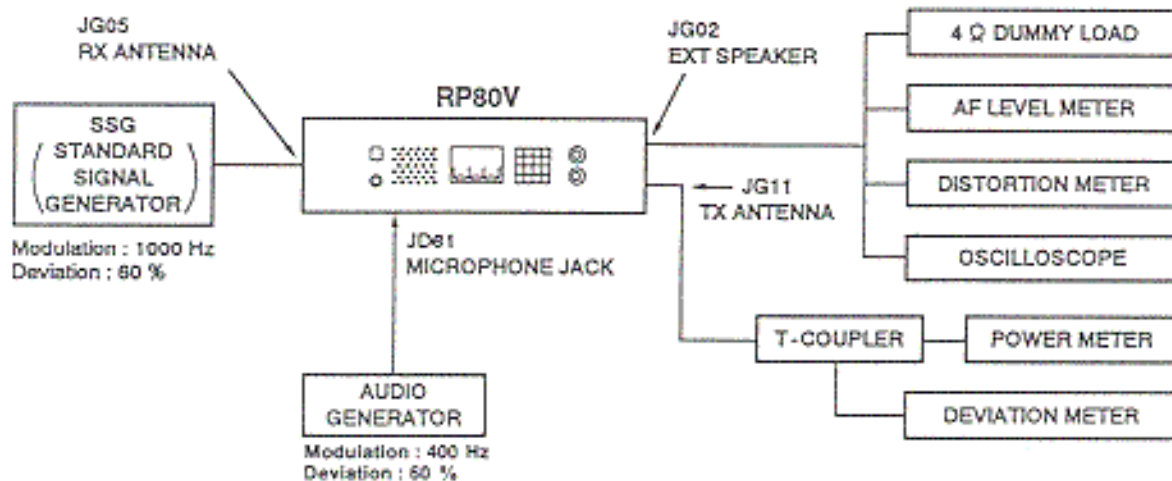

Figure 6-7 Blocking/desensitization alignment
- Connect the measuring instruments as shown in Figure 6-7.